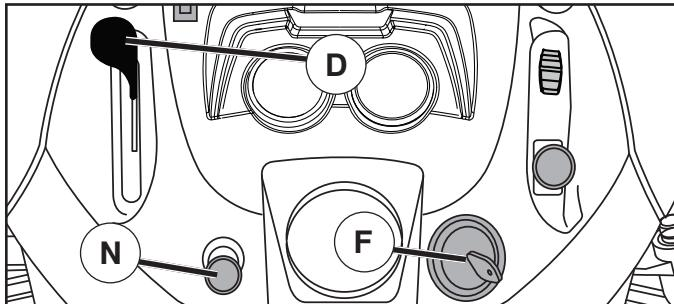

Fig. 7
- Move throttle control (D) to slow position.
- Turn ignition key (F) to "STOP" position and remove key. Always remove key when leaving tractor to prevent unauthorized use.
### TO USE THROTTLE CONTROL (D) (See Fig. 7)
### TO USE CHOKE CONTROL (N) (See Fig. 7)